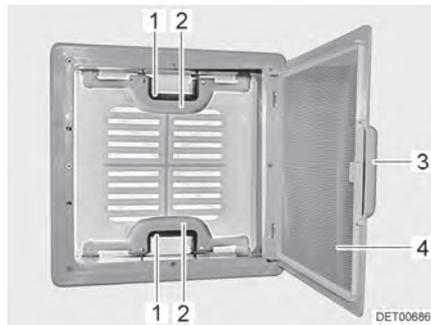

Fig. 51 Skylight with snap latch
- Pull on the handle (Fig. 51,3).
- Fold insect screen (Fig. 51,4) downward.
- Push the snap latch (Fig. 51,1) towards the inside of the skylight. At the same time use the handle (Fig. 51,2) to press the skylight upwards.
- Swing insect screen (Fig. 51,4) upwards until it latches in place.
- Using both handles (Fig. 51,2), pull down the skylight with force until the two snap latches (Fig. 51,1) lock into place.